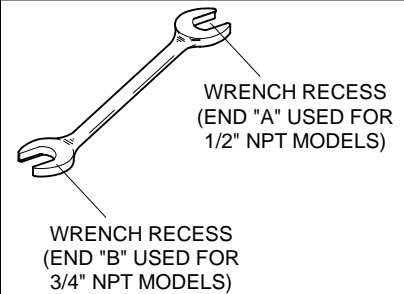

FIGURE 7
Step 3. Tighten the sprinkler into the sprinkler fitting using only the W-Type 6 Sprinkler Wrench (Ref. Figure 7), except that an 8 or 10 inch adjustable Crescent wrench is to be used for wax coated sprinklers. With reference to Figures 1, 2, 3, and 4 the W-Type 7 Sprinkler Wrench or the adjustable Crescent wrench, as applicable is to be applied to the wrench flats.